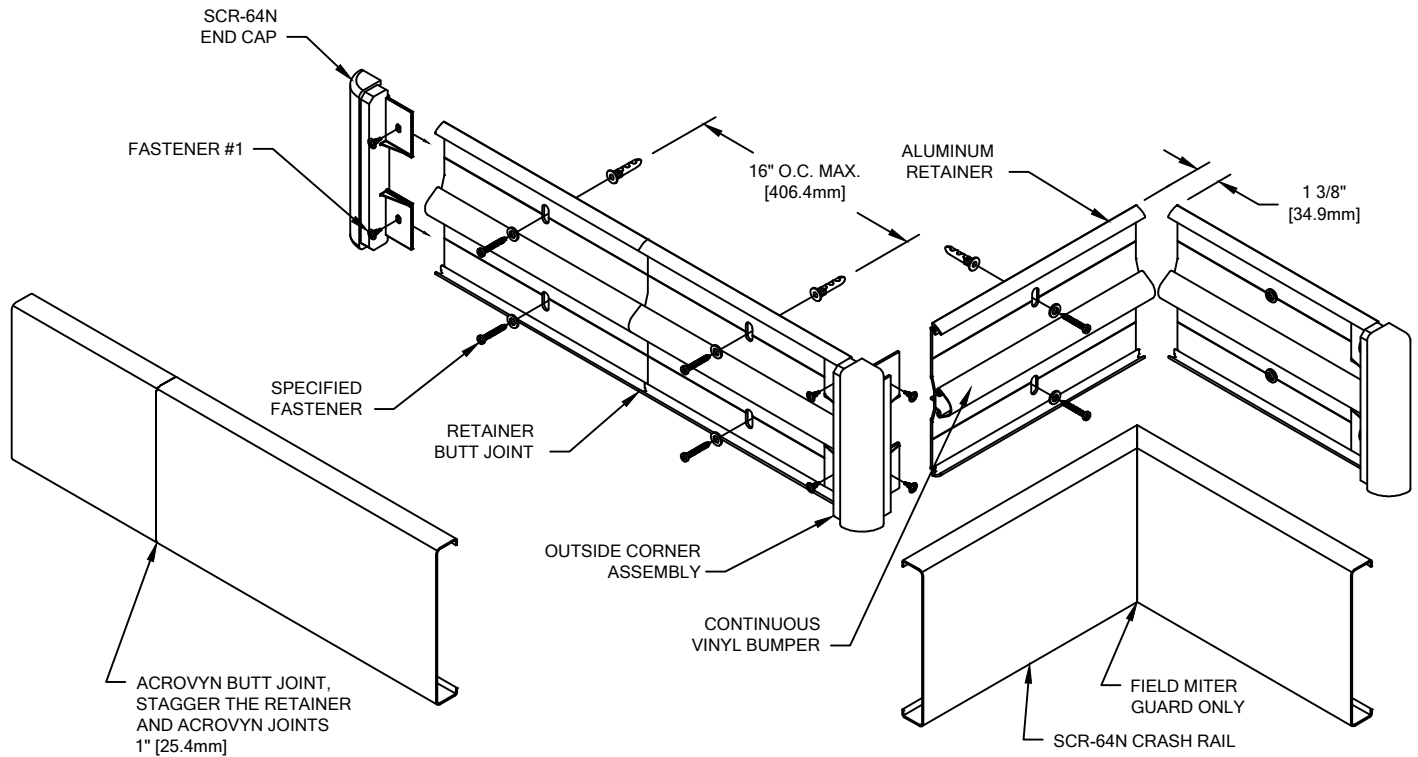

FIGURE 1.
2. CUT THE CONTINUOUS ALUMINUM RETAINER AND THE CONTINUOUS VINYL BUMPER TO LENGTH, USING THE REQUIRED DEDUCTIONS AS NOTED (SEE LAYOUT VIEW). PRE-DRILL CLEARANCE HOLES IN THE ALUMINUM RETAINER 16" [406.4mm] O.C. AS REQUIRED (SEE FIGURE 1). REFERENCE CHART ON PAGE 2 FOR DRILL DIAMETERS.
6. ATTACH END CAPS/OUTSIDE CORNERS BY SLIDING THE END CAP/OUTSIDE CORNER ONTO THE END OF THE ALUMINUM RETAINER AND SECURING INTO POSITION USING TWO 1/2" WAFER HEAD TEK SCREWS AT EACH END CAP AND FOUR AT EACH OUTSIDE CORNER. (SEE FIGURE 1 ABOVE)